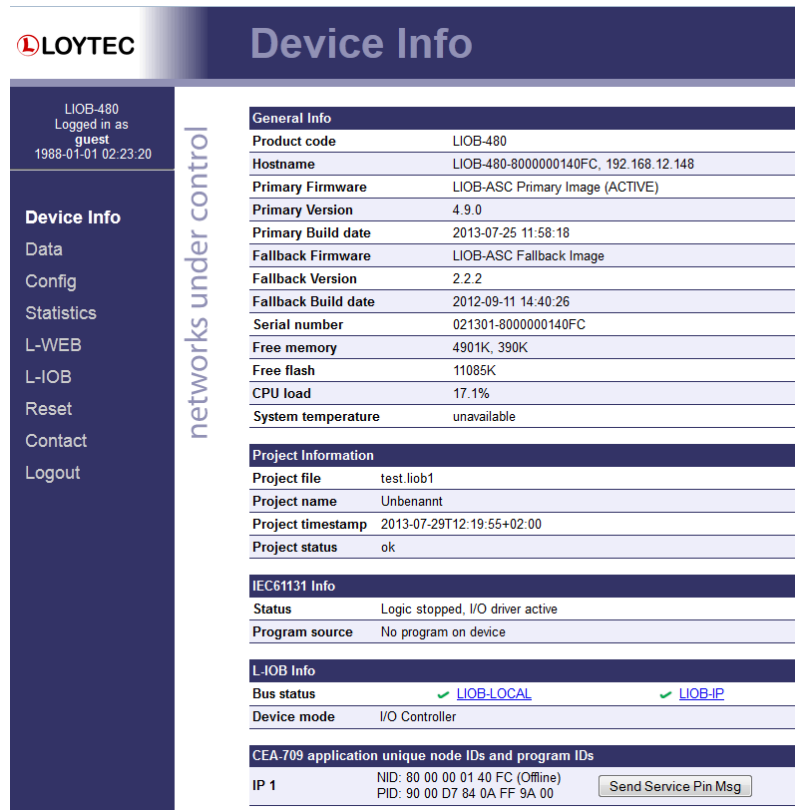

Figure 29: Device Information Page
5. The device information page should appear as shown in Figure 29.